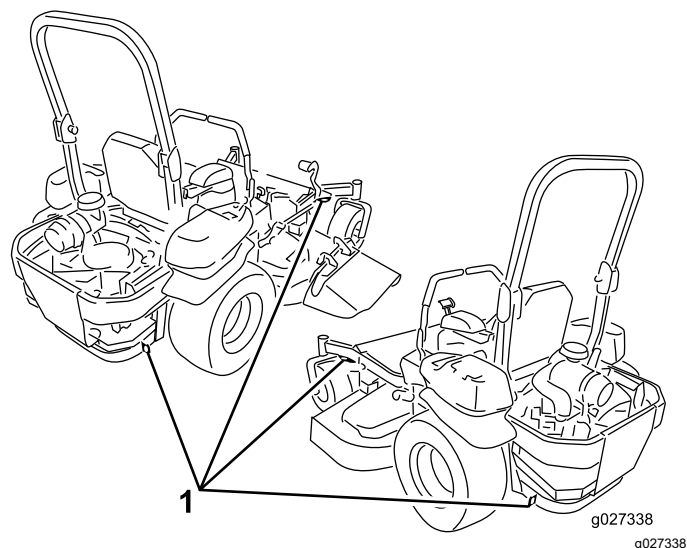

Figure 42
6. Tie down the machine near the front caster wheels and the rear frame with straps, chains, cable, or ropes (Figure 42). Refer to local regulations for tie-down requirements.